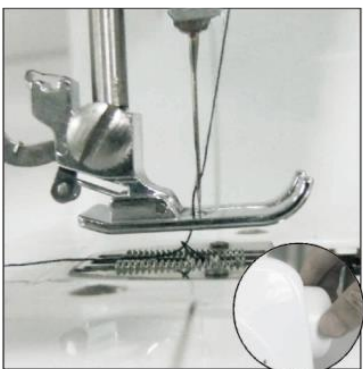

Fig.9
- 3) Hold the end of the upper thread with one hand, and turn the hand wheel counterclockwise with the other hand, the needle thread will pick up the bobbin thread and pull it up through the hole under the needle (Fig.9).